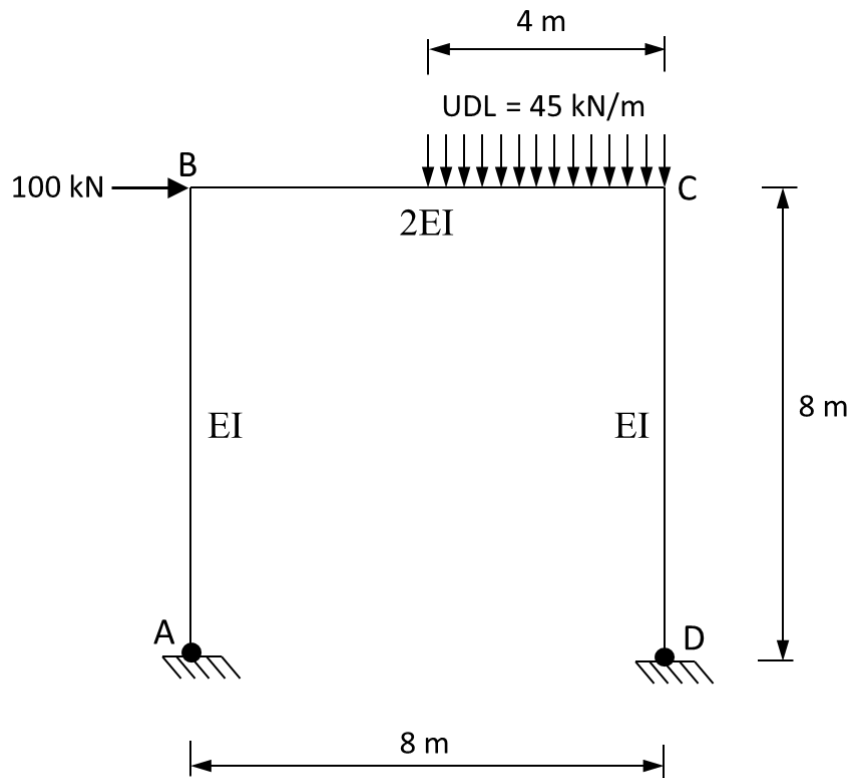

Figure Q6
Figure Q6 shows a portal frame which is pinned to rigid supports at A and D. A horizontal load of 100 kN is applied at position B and a uniformly distributed load of 45 kN/m is applied on the horizontal member over 4 m from position C. The flexural rigidity (EI) of the horizontal member is twice that of each of the vertical member.